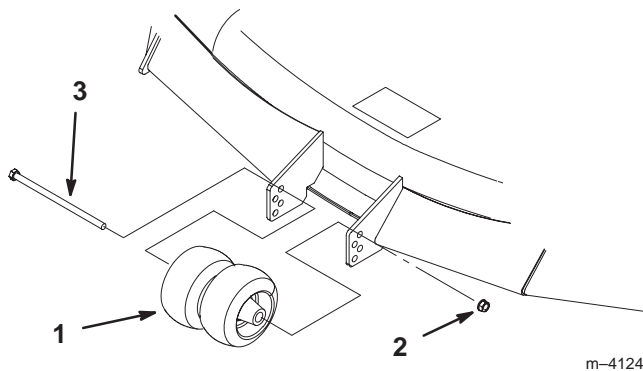

Figure 19
2. After adjusting the height-of-cut, remove the bolt and nut (Fig. 19).
3. Select a hole so that the gage wheel is positioned to the nearest corresponding height-of-cut desired (Fig. 19).
- Reinstall the bolt, center rollers, and nut (Fig. 19).